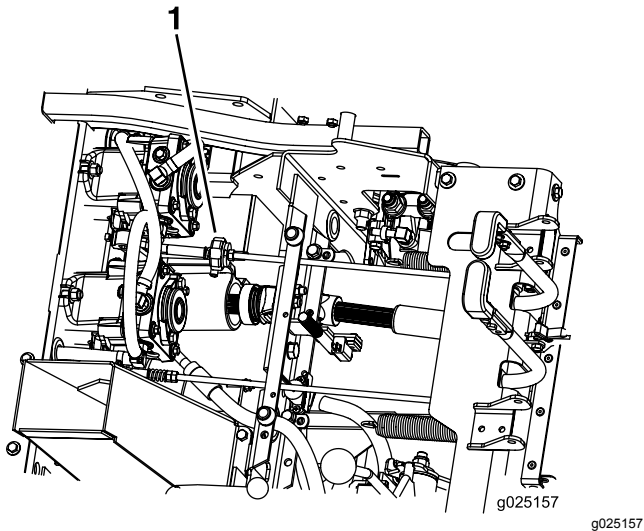

Figure 41
6. Check and ensure that the machine does not creep when in neutral with the parking brakes disengaged (Figure 41).